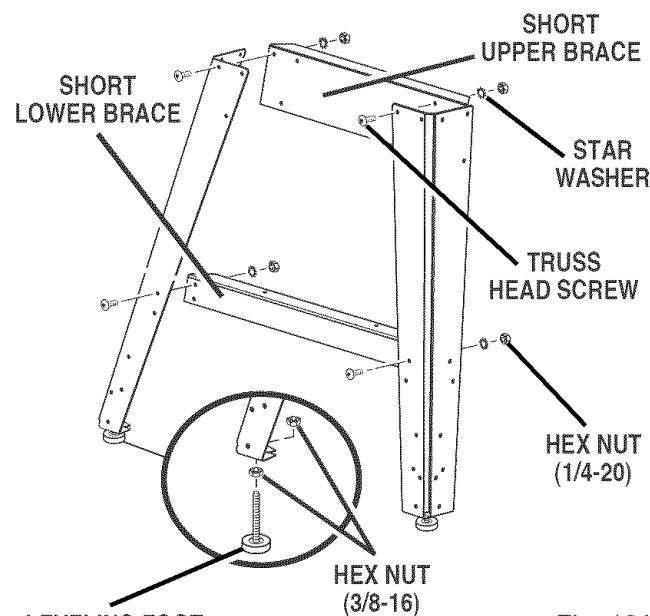

Fig. 10A 22
See Figures 10A - 10C.
- Place a 3/8-16 hex nut on each leveling foot and insert leveling feet into the bottom of the legs. Cap with remaining 3/8-16 hex nuts but only finger tighten. See Figure 10A.
- Install a short lower brace on the legs. See Figure 10A.